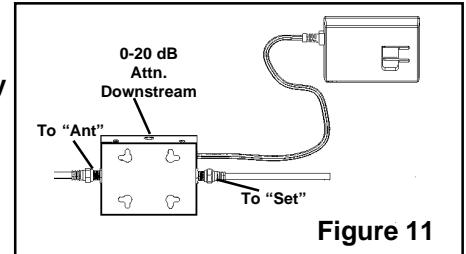

Figure 11
12. Run the download to the PS-0200 power supply connector labeled "To Ant". (See Figure 11.)
13. Run a cable from the PS-0200 power supply connector labeled "To Set" to the set-top. (See Figure 11.)